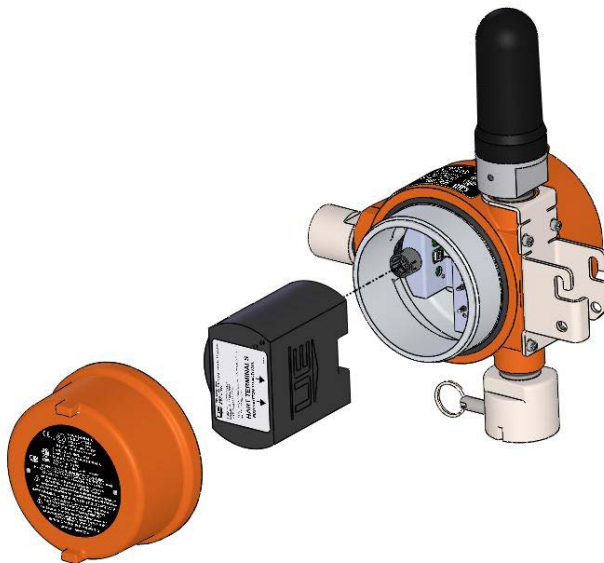

Figure 5
4. Slide the battery pack into the enclosure until it latches in place as shown in Figure 5.